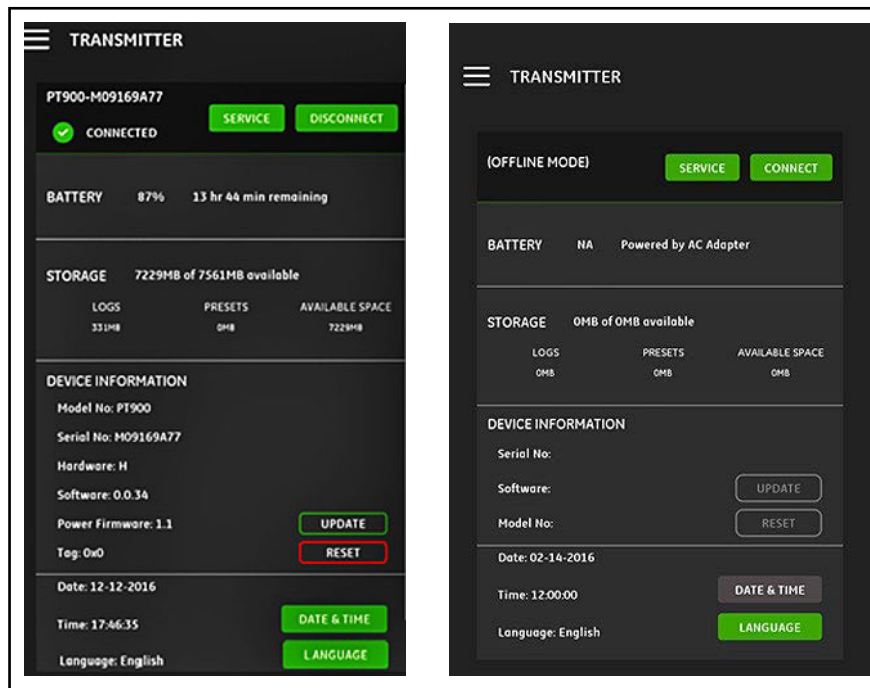

Figure 127: CONNECTED (Left) and OFFLINE (Right) Menus
IMPORTANT: Before creating a new log, be sure to synchronize the transmitter and the tablet time settings by clicking the DATE & TIME button in the TRANSMITTER menu (see *Figure 127 on page 94*).
1. Be sure the transmitter and tablet time settings are synchronized by setting the transmitter time in the TRANSMITTER > DATE & TIME menu (see *Figure 127 on page 94*).
If a PT900 transmitter is CONNECTED to the tablet APP via Bluetooth, the TRANSMITTER menu shows device information about the PT900 transmitter, the battery and the memory usage. However, if the connection is OFFLINE, this information is unavailable. See examples of both possibilities in *Figure 127* below.
7. Go to the TRANSMITTER menu (see *Figure 127* on page 94) and verify that the device information is correct. If you had any problems during the update, make sure that the following conditions were met: